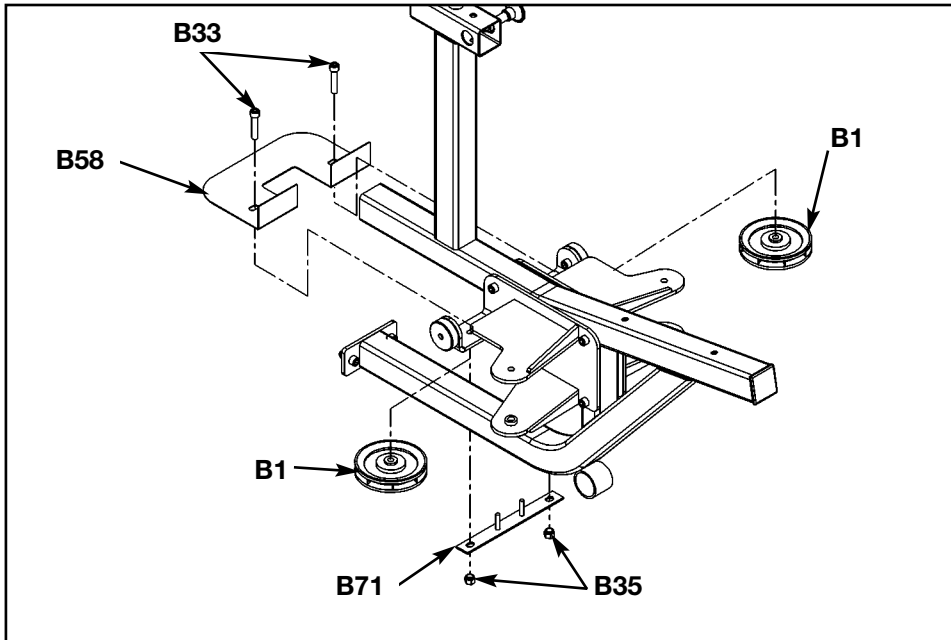

Figure 9
- F.** Install guard (#B58), pulleys (#B1) and bracket (#B71) using two SHCS .375-16 x 2.00 (#B33) and two nylon locknuts (#B35) as shown in Figure 9.